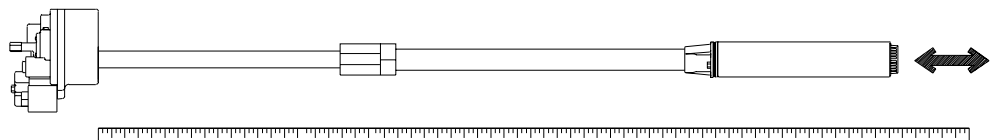

Figure 4.7 Adjust pump length
- 6: Pull the UMP end until the distance between the bottom of the manifold and the of the UMP is 5 inches (125 mm) (14 inches (356 mm) for floating suction) shorter than the distance measured in step 2 (see figure 4.7)